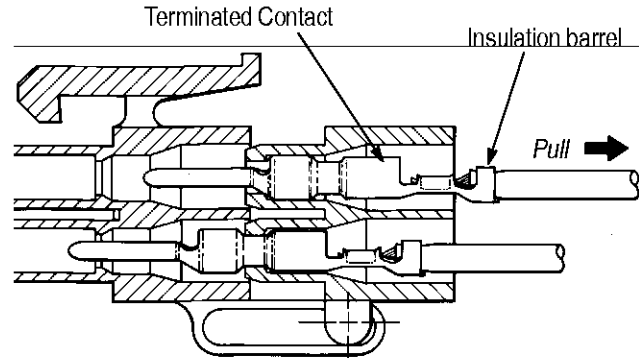

Figure 10
2. Grasp the selected wire by the insulation barrel and pull using a twisting motion until terminated contact is free from housing as shown in Figure 10.